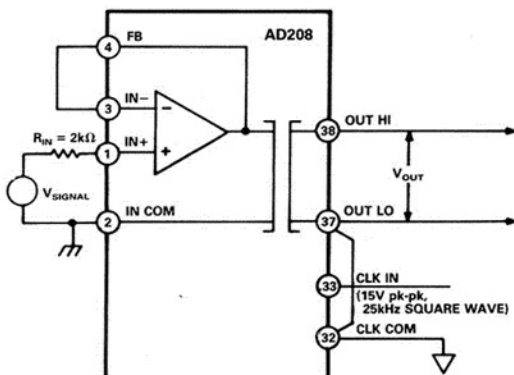

Figure 29. Basic Unity Gain Configuration
**Unity Gain Input Configuration.** The basic unity gain configuration for input signals of up to  $\pm 5$  V is shown in Figure 29.
**Note on the 2 k $\Omega$  Resistor:** The 2 k $\Omega$  resistor placed in series with the input signal source and the IN+ terminal, designated as  $R_{IN}$  in Figures 29 and 30, is suggested so as to limit the current seen at the input terminals to 2.5 mA when the AD208 is OFF. The 2 k $\Omega$  resistor will also reduce the overload recovery time to 2 ms.
**Signal Inversion.** The circuits illustrated in Figures 29 and 30 are "noninverting." If signal inversion is desired simply interchange the output leads of the circuits shown in Figures 29 or 30 to get inversion. This approach allows for the retention of the high input impedance characteristics of the "noninverting" circuit.